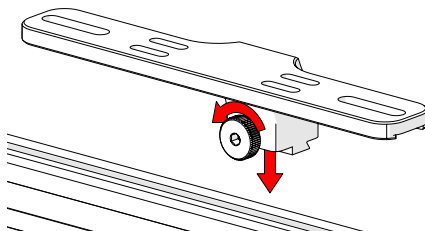

Fig. 291 - Loosen knob and mount to dovetail groove
1. Loosen the knob and align with dovetail groove (*Fig. 291*).